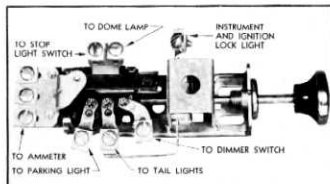

Fig. 62—Light Switch Wiring Identification
6. Connect all wires to the lighting switch terminals according to the notations made when disconnecting or according to connections shown in Figure 62.